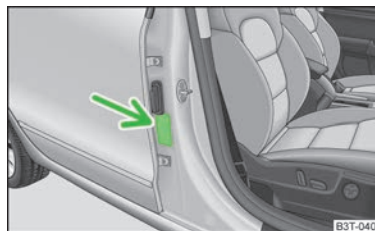

Fig. 147
- This is also clearly stated on the sticker which is located on the B column on the front passenger side » Fig. 147. The sticker is visible upon opening the front passenger door. For some countries, the sticker is also affixed to the sun visor of the front passenger.